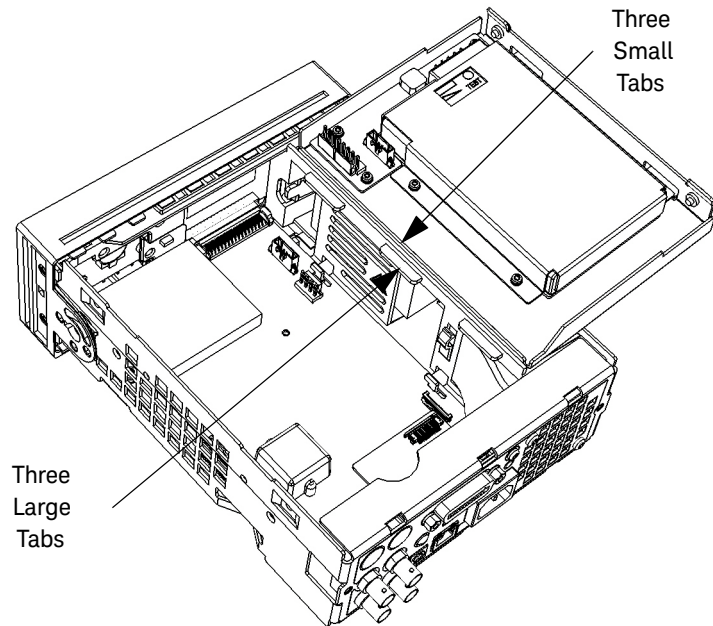

Figure 3-3 Battery assembly temporary position for service or Removal
- 4** Without disconnecting the battery charging cable, carefully turn the battery assembly over on its back and insert the three smaller tabs behind the large tabs into the three slots in the assembly. (See Figure 3-3.)